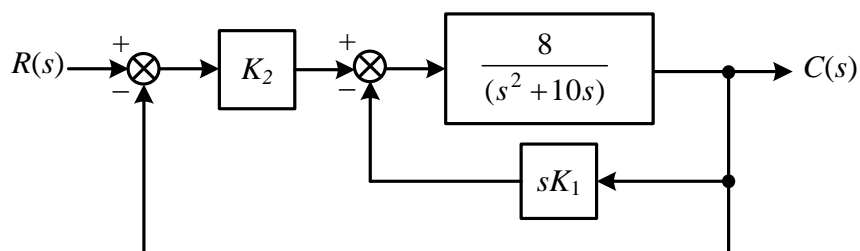

Fig. 8
9. For the control system shown in Fig. 8, the system is subjected to an input  $r(t)=2t$ . where  $K_1$  and  $K_2$  are constants.